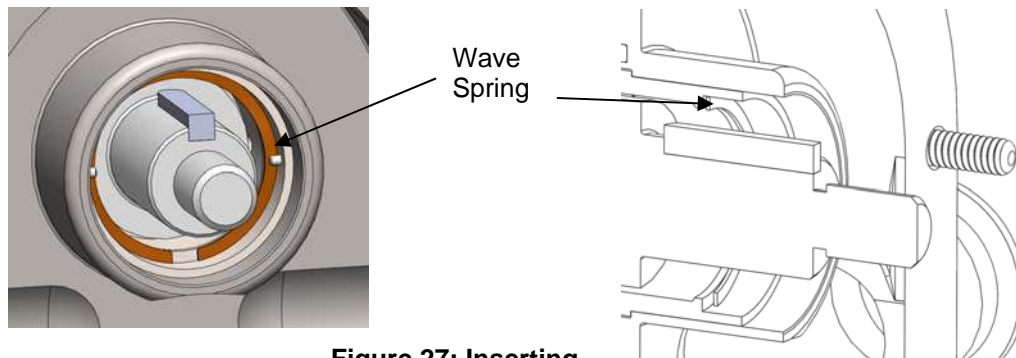

Figure 27: Inserting
- 1) Start by inserting the wave spring into the sleeve making sure that it sets below the stationary drive pins (Figure 27).